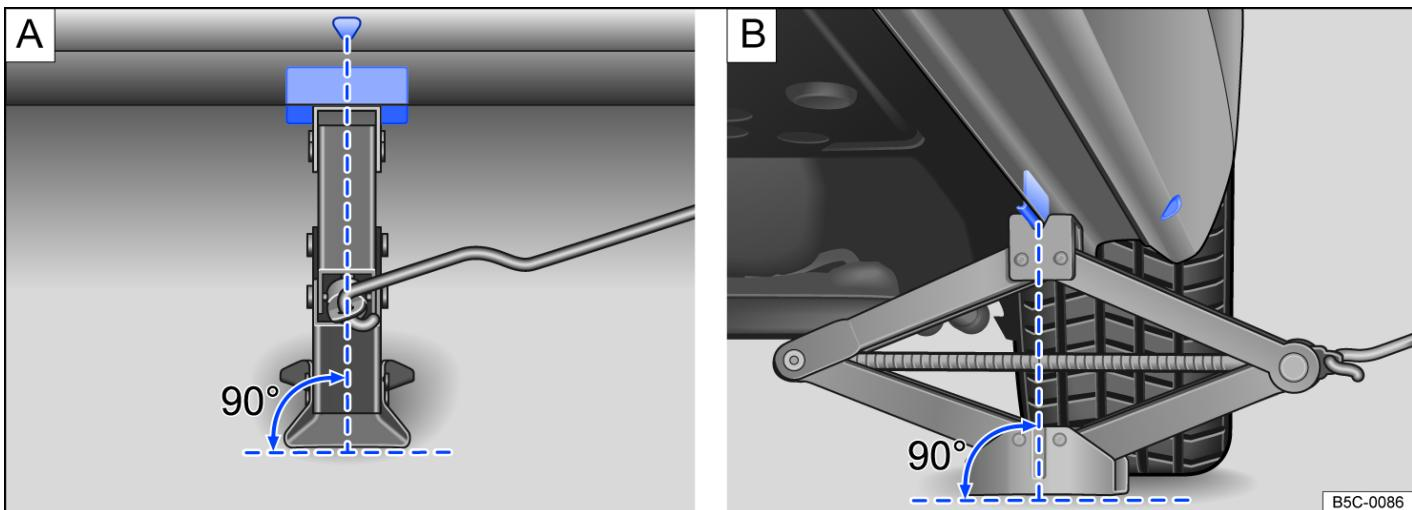

Fig. 2 Jack applied at the rear left-hand side of the vehicle.
9. Ensure that the entire surface of the foot of the jack is resting securely on the ground, and that the foot of the jack is positioned vertically directly beneath the point of application → Fig. 2 A and B.
10. Position the jack and simultaneously continue to crank the claw up until it is in position around the jacking point underneath the vehicle → Fig. 2.
- Apply the jack only at the points described. The vehicle jack claw must grip the vertical rib under the side member securely → *Fig. 2.*